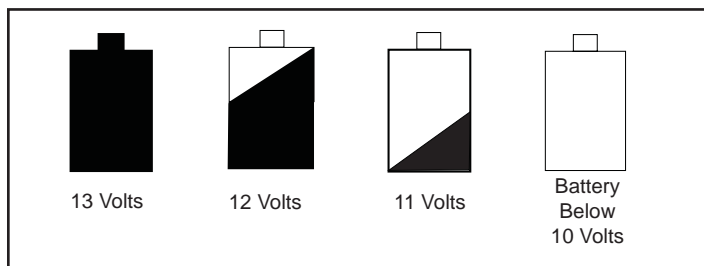

Figure 10.1
- If the battery charge falls below 10 volt it can no longer sustain the appliance operation and the appliance will shut down. **Figure 10.1.** You must disconnect and reconnect the battery to start it up again.